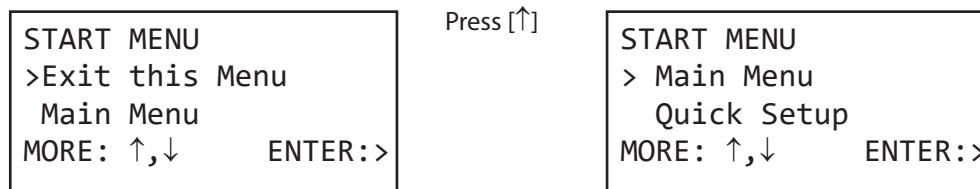

Figure 28: Scroll up
**Example 1:** Figure 28 shows the *Start Menu*. The selection arrow points to the *Exit this Menu* selection.